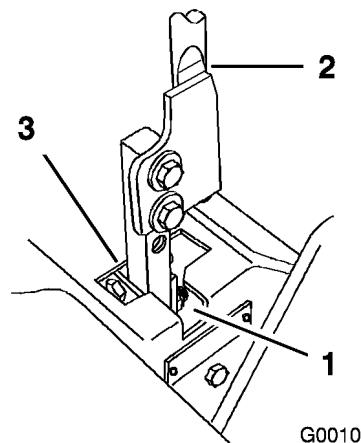

Figure 53
- Move lever to the neutral position but not locked (Figure 53).
7. Check where the control lever is relative to the notch in the console (Figure 53). It should be centered, allowing the lever to pivot outward to the neutral lock position.